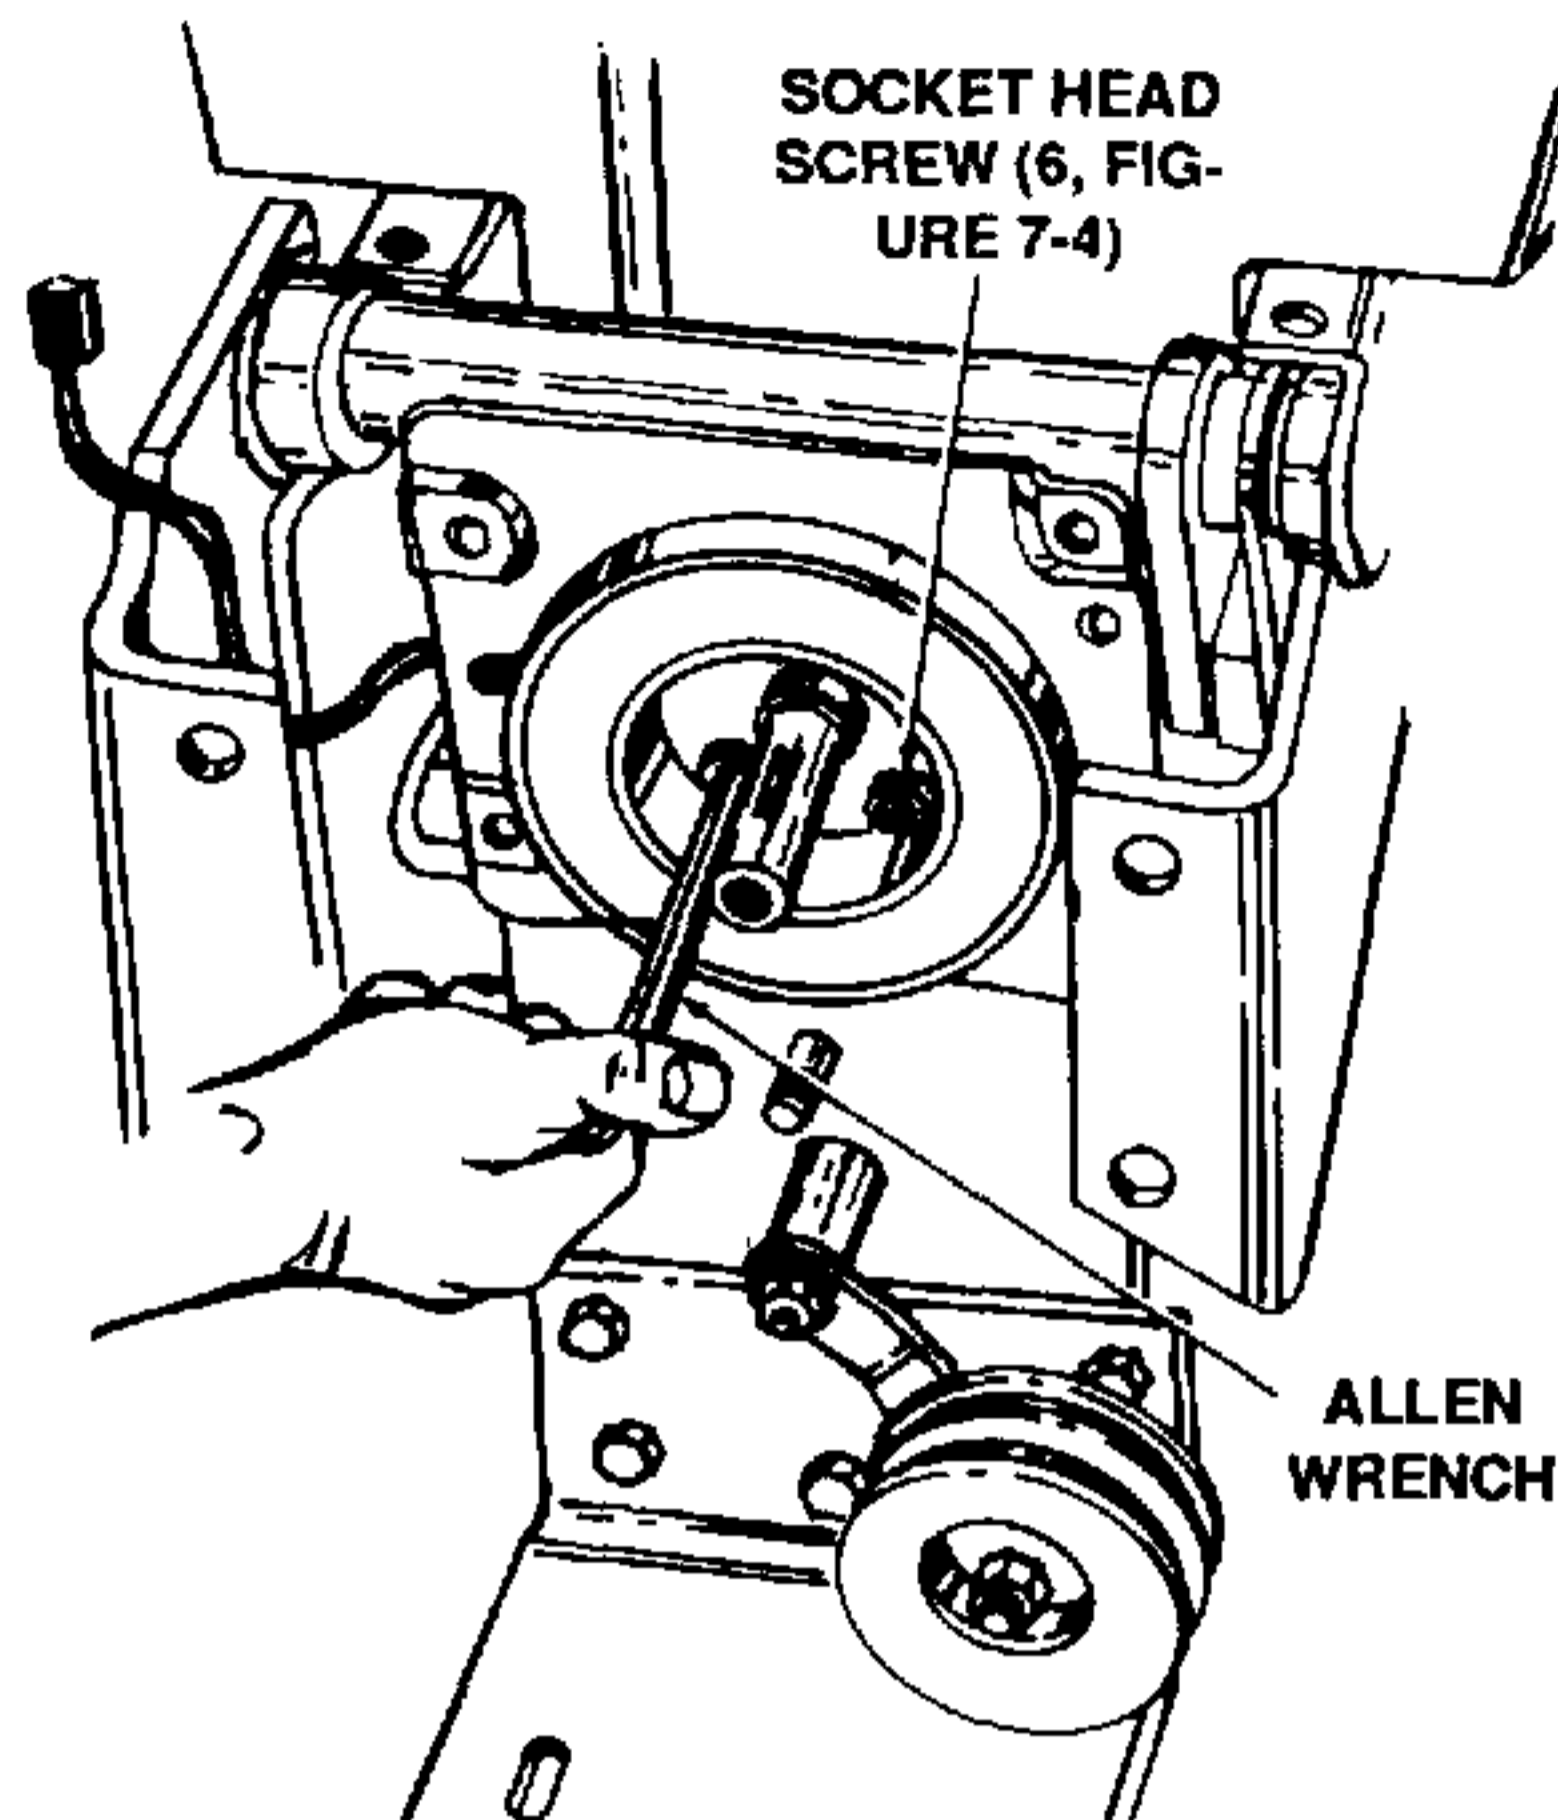

Figure 7-20. Securing Clutch Field Assembly.
- d. Secure clutch field assembly to rear PTO shaft casting with four socket head screws (6, Figure 7-4). Refer to Figure 7-20.